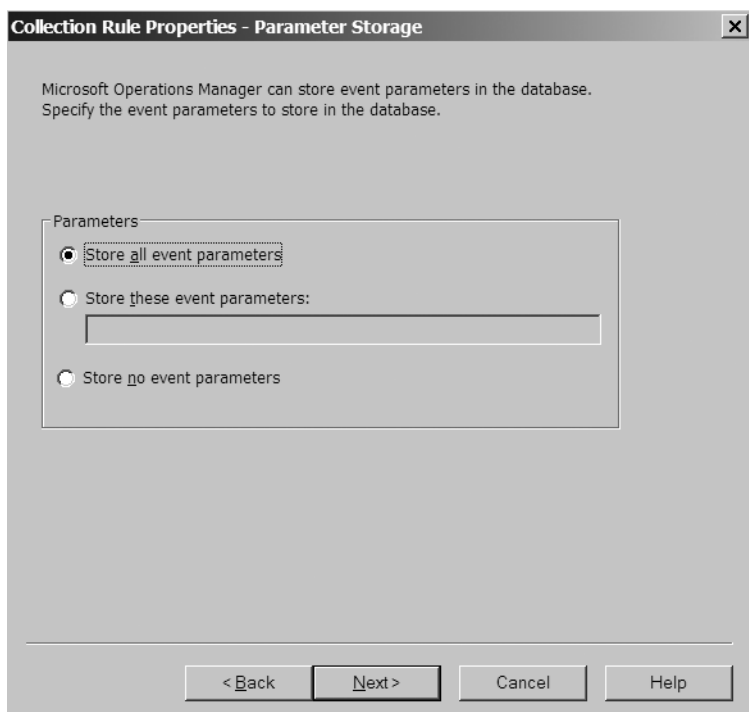

Figure 3-7. *The Parameter Storage window*
5. In the Collection Rule Properties - Parameter Storage window, select Store all event parameters, and then click Next. This is shown in Figure 3-7.